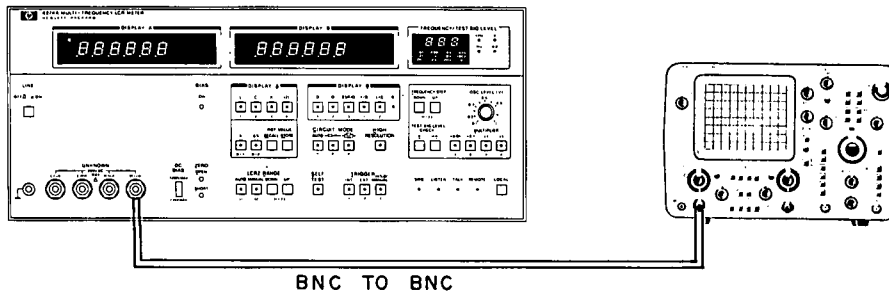

Figure 5-7. A3 Power Amplifier Adjustment.
- b. Connect 1740A input to 4274A H cur BNC connector of UNKNOWN terminals with BNC-to-BNC cable as in Figure 5-7.